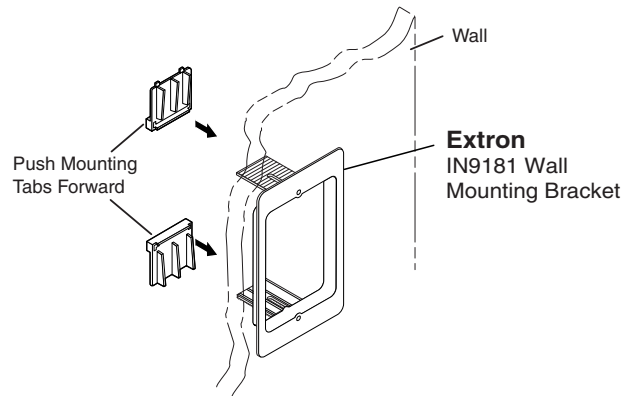

Figure 2-4 — Attaching a mounting bracket to a wall
6. If you are using a mounting bracket, follow the directions, if any, that came with the mounting bracket to attach the clips that fasten the bracket to the wall or furniture (figure 2-4).